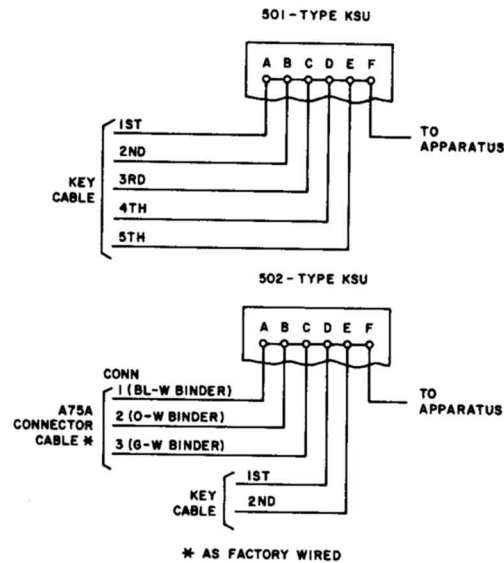

Fig. 6—Key Cable Termination on Connecting Block A
4.07 Terminate incoming CO/PBX lines on connecting block D as shown in Table B. Terminate key cables on connecting blocks A and C as shown in Tables B and C. Key cables should be terminated in sequence as shown in Fig. 6.
4.09 A factory supplied length of A75A connector cable is connected to block A. (See Fig. 6
4.12 Connect additional key cables as needed to available terminals not occupied by connector cable leads (Fig. 6).